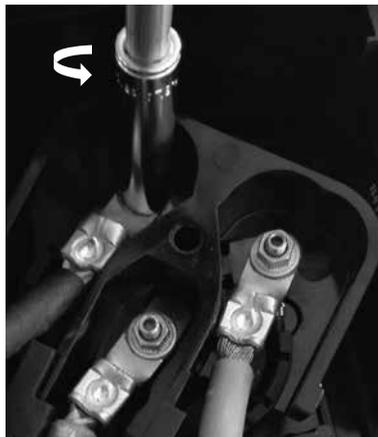

fig. 1
- Unscrew the Twolok® nuts and remove the power cables. (fig.1)